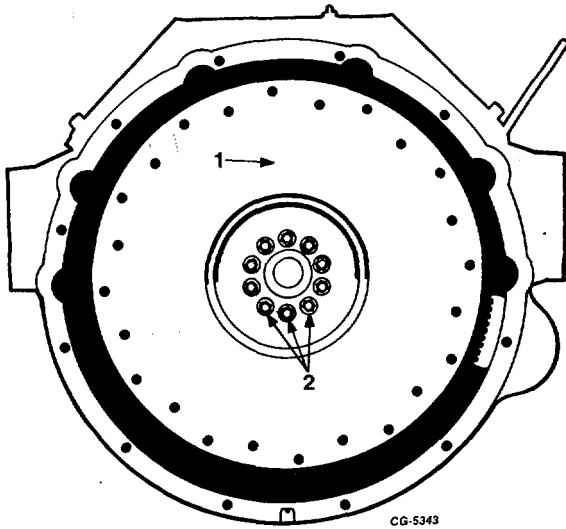

Fig. 50 Flywheel Removal
55. Remove ten mounting bolts and remove the flywheel assembly from the crankshaft flange, Figure 50.